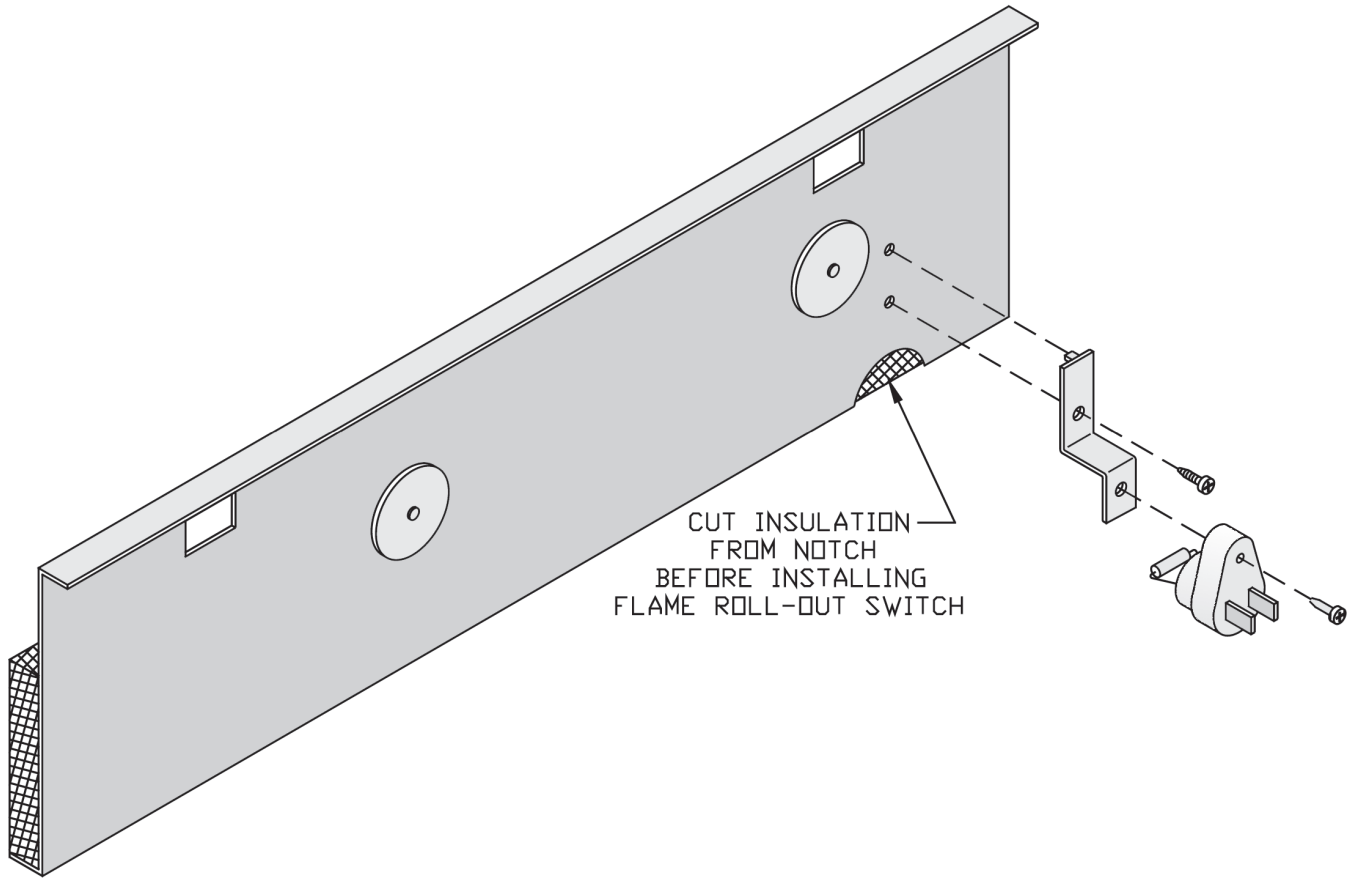

Figure 6: Flame Roll-out Switch Installation
M. Attach Flame Roll-out Switch to Burner Access Panel. See Figure 6. Flame Roll-out Switch and hardware are located in Combination Boiler Parts and Control Carton. Flame Roll-out Switch is a single use device - do not test with heat - switch cannot be reset.